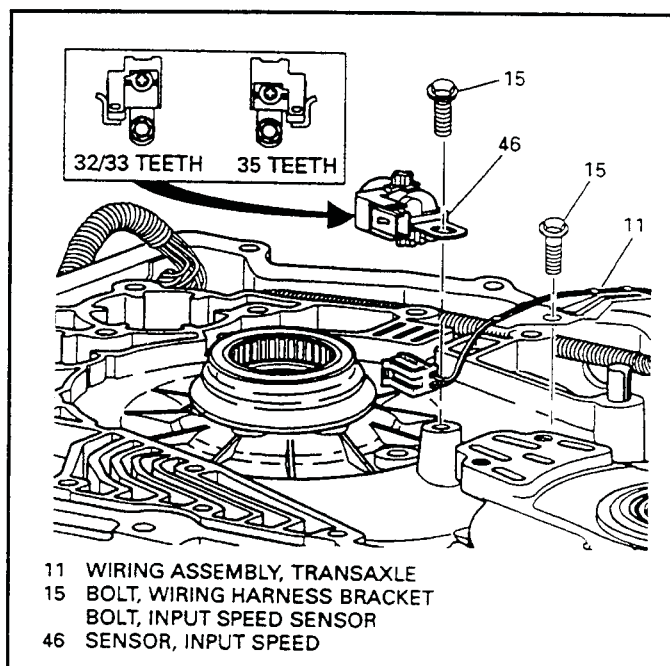

Figure 162
1. Install the input speed sensor (46) in transaxle case. The tab on the input speed sensor housing fits into the recess on the case boss, as shown in Figure 162.
IMPORTANT: Orientation of the input speed sensor depends on the number of teeth on the drive sprocket, which varies depending on model application. Drive sprockets with 32 or 33 teeth have the speed sensor connector facing the bottom pan as shown in Figure 162. Drive sprockets with 35 teeth have the speed sensor connector facing the fluid fill cap.
2. Install the input speed sensor in the proper direction for your model, install the retaining bolt, and torque to 9 ft.lb (See Figure 162).
3. Inspect the wiring harness (11) for damage. Also inspect the case connector pins for any damage and/or bent pins.
7. Install the wire harness retainer to the case with wire harness retainer bolt, and torque to 9 ft.lb. (See Figure 162).
8. Connect the input speed sensor connector to the input speed sensor (See Figure 162).